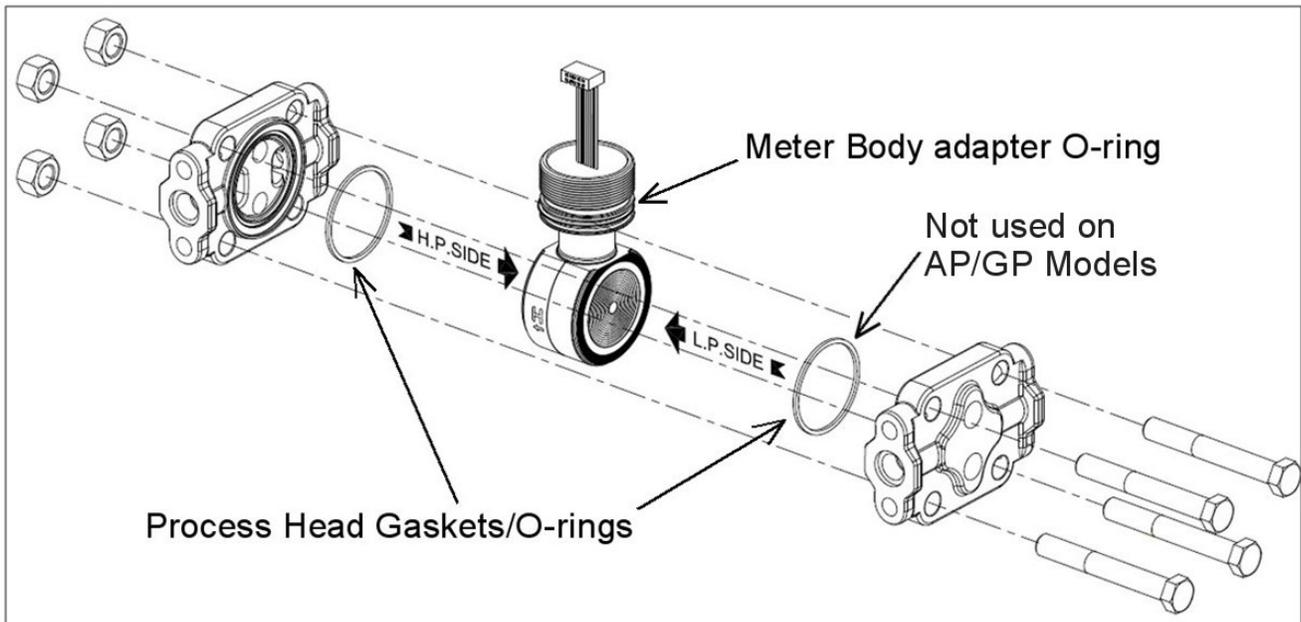

Figure 24 – Meter Body Reassembly
15. Refer to Figure 24. Apply Dow Corning #33 silicone grease to the meter body adapter O-ring and carefully assemble the O-ring to the meter body. Assemble the process head(s) and bolts to the new meter body. For now, make the bolts only finger-tight.